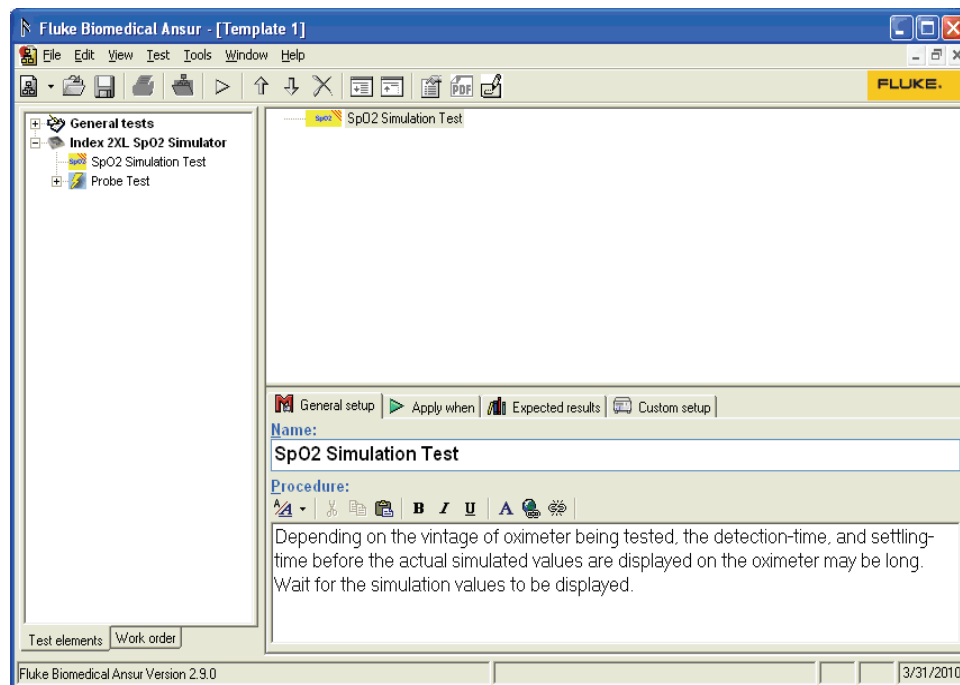

Figure 4-1. Test Template with Selected Test Element
1. Drag a test element from the **Test Explorer** (left pane) into the **Test Template** (right pane), as displayed in Figure 4-1. Clicking the test element in the **Test Template** highlights the test element and its properties. In this illustration, the highlighted element is the **Index 2XL SpO2 Simulation Test**, and is the first test step to be performed.